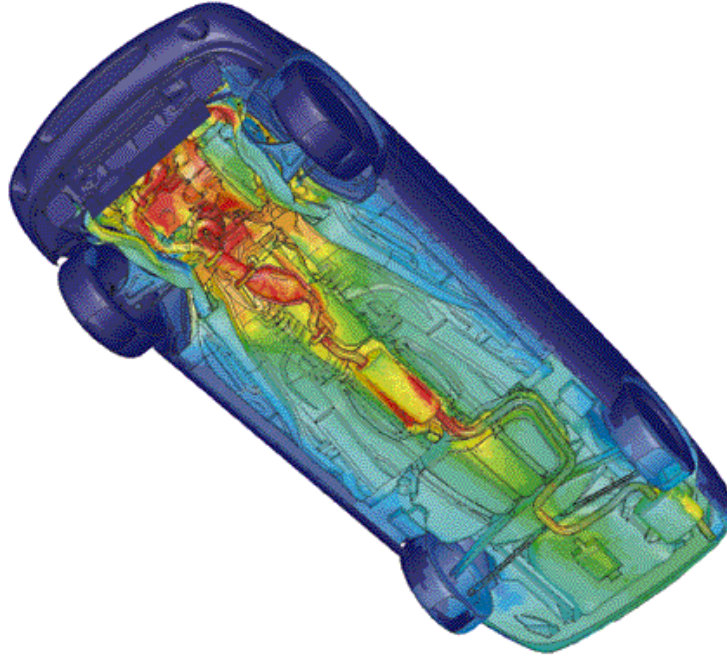

Figure A.3.1: Temperature Contours on the Underbelly of a Vehicle
- **Automotive:** Formula 1 design, simulation of aerodynamic, packaging, and styling requirements of vehicles (Figure A.3.1).